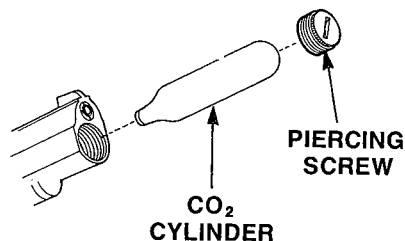

FIG. 5
- Insert the new CO₂ cylinder into the conversion unit with the neck of the cylinder pointing toward the rear of the pistol. (Fig. 5)